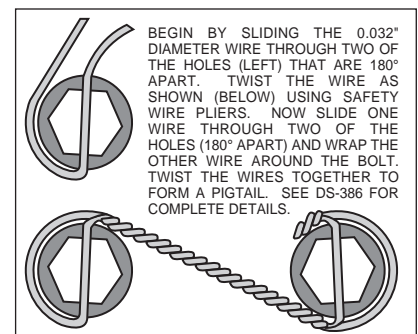

Figure 3. Safety Wire Diagram
- The caliper mount bracket assembly (1) should be installed first with clean, dry threads on the mounting bolts. Install the bracket from the rear side of the spindle by sliding the upper mounting bolt (4) through flat washer (5) and the upright into the upper bolt hole on the bracket. Attach the lower portion of the bracket by sliding bolt (6) through flat washer (7) and into the lower hole on the backside of the spindle. The bracket must tighten squarely against the inboard side of the spindle face plate/upright. Inspect for interference from casting irregularities, machining ridges, burrs, etc. If everything fits correctly, then remove the mounting bolts (4 and 6), coat threads with red *Loctite*® 271 and reinstall. Torque bolt (4) to 65 ft-lbs., and bolt (6) to 42 ft-lbs.
- Install wheel studs (8) into the hub (9). Torque to 77 ft-lb. **NOTE:** There are two lug patterns of five holes each in the hub (5 x 4.50 and 5 x 4.75). Make sure of the correct hole pattern for the wheel application before installing the studs into the hub.
- Pack the large inner bearing cone (10) with high temperature disc brake bearing grease (available from your local auto parts store) and install into the backside of the hub (9).
- Install the grease seal (11) into the backside of the hub (9).
- Pack the small outer bearing cone (17) with high temperature disc brake bearing grease and install into front side of the hub (9). Slide the hub assembly (9, 10, 11 and 17) onto the spindle. Secure using spindle washer (18), stock adjusting nut, and nut locking device. Adjust wheel bearing pre-load per Original Equipment Manufacturer (OEM) specifications.
- Install the O-ring (20) and the dust cap (19) into the hub (5). **NOTE:** O-ring (20) friction will not allow cap (19) to unscrew on its own.
- With the larger I.D. side of the rotor (12) facing away from the hat (13), bolt rotor (12) to hat (13) through the backside of the rotor using washers (14) and bolts (15). Using an alternating sequence, apply red *Loctite*® 271 to the threads and torque bolts to 155 in-lb. For an added measure of security, the bolts may be safety wired using standard 0.032 inch diameter stainless steel safety wire as shown in Figure 3. Please refer to Wilwood's data sheet DS-386